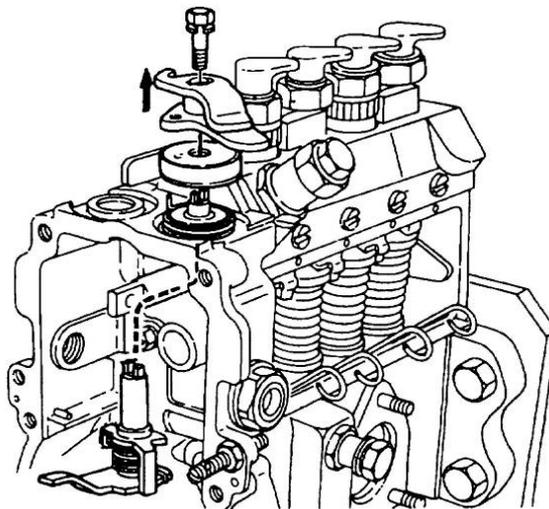

Figure 95 Removing the Stop Lever Assembly
- r. Remove the bolt securing the stop lever to the stop lever shaft and remove the stop lever, cap, return spring, O ring, shim and shaft from the governor housing (Figure 95).